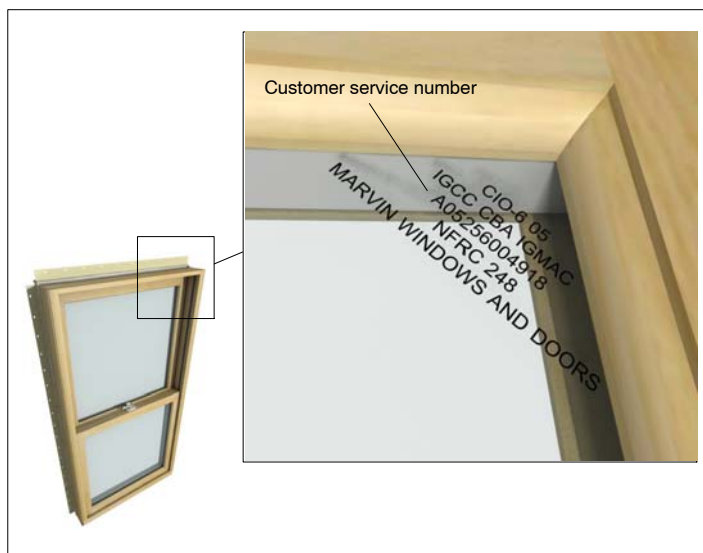

Figure 3:
1. Remove the protective packaging from the unit and dispose/recycle properly. Inspect unit for any hidden damage and report immediately to your Marvin representative. Provide the customer service number etched on one of the top corners of the glass. See figure 3.